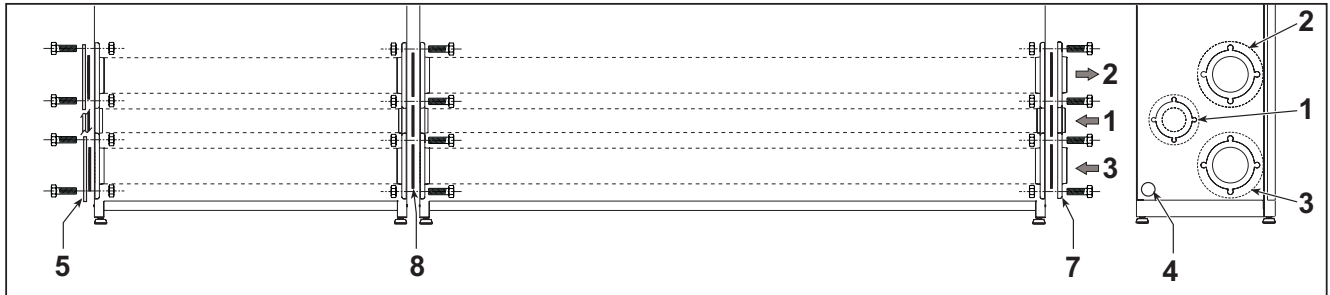

fig. 19
**To connect several modules in line - fig. 19**